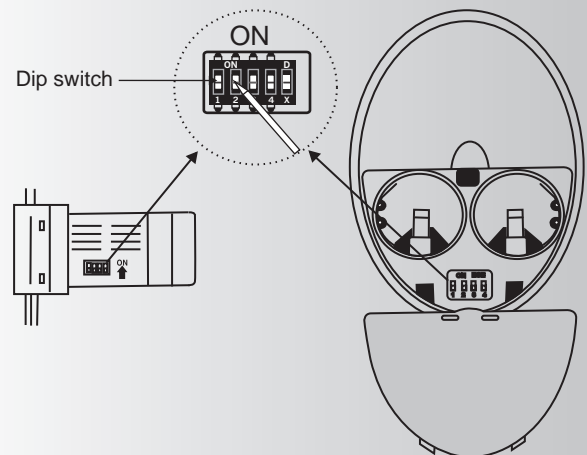

Fig. 12
**NOTE:** In the Transmitter, Set Dip Switch #5 on the X position. This disables the dimming function because your ceiling utilizes CFL lamps that can NOT be dimmed. (Fig.12)
**NOTE:** The CoolTouch™ Control System is equipped with 16 possible frequency combinations to prevent interference from or with other remote control units. The frequency switches on your receiver and transmitter have been preset at the factory. Please recheck to make sure the switches on transmitter and receiver are set to the same position, any combination of settings will operate the fan as long as the transmitter and receiver are set to the same position. (Fig. 12)